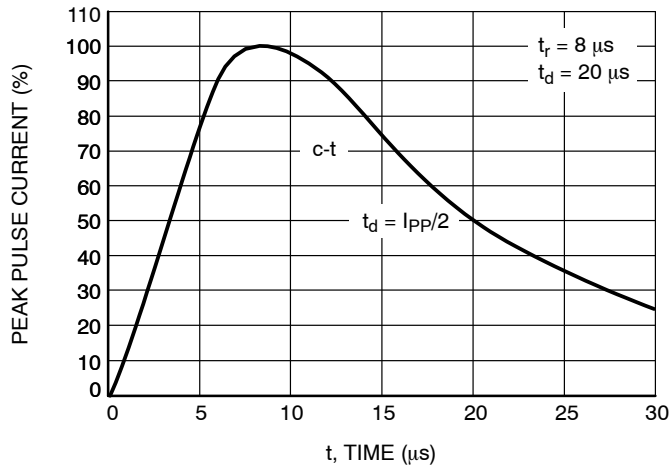

Figure 6. Pulse Waveform (8/20  $\mu\text{s}$ )
- Pulse waveform per Figure 6.